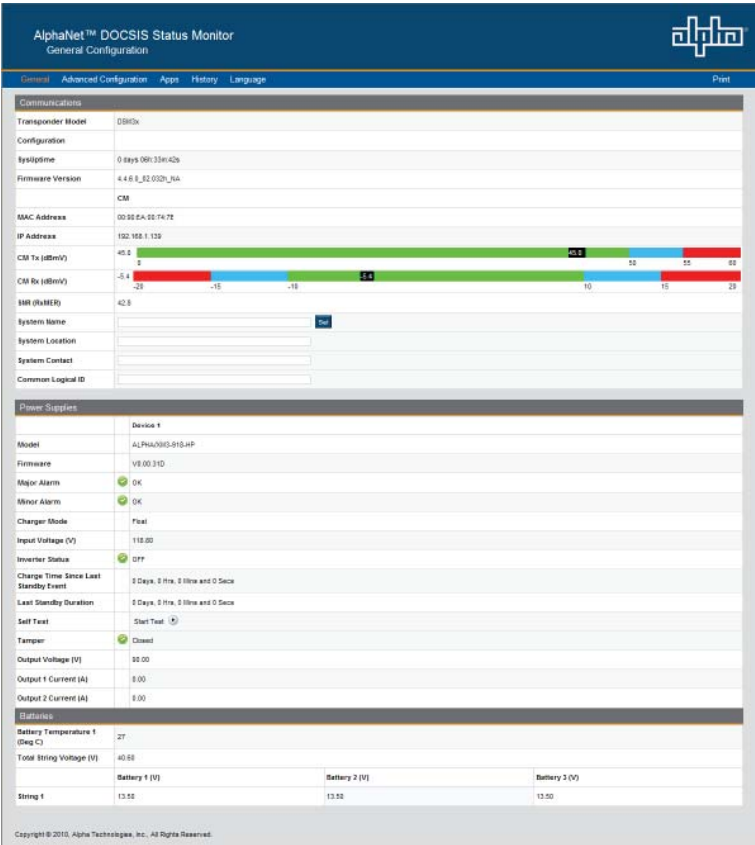

Fig. 2-15, Web Server Home Page
- 4. The DSM3 Series transponder's Web server home page will appear (Fig. 2-15).